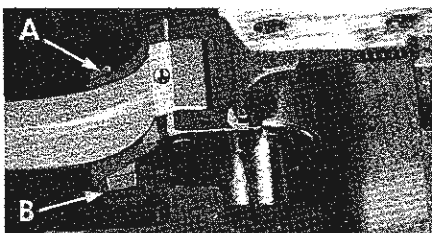

Fig. 7
Loosen nut (A, Fig. 7) and turn hexagonal head screw (B) clockwise or counterclockwise as required to correct the parallelism of the feed dog to the throat plate in-the-line-of-feed. Retighten nut (A).